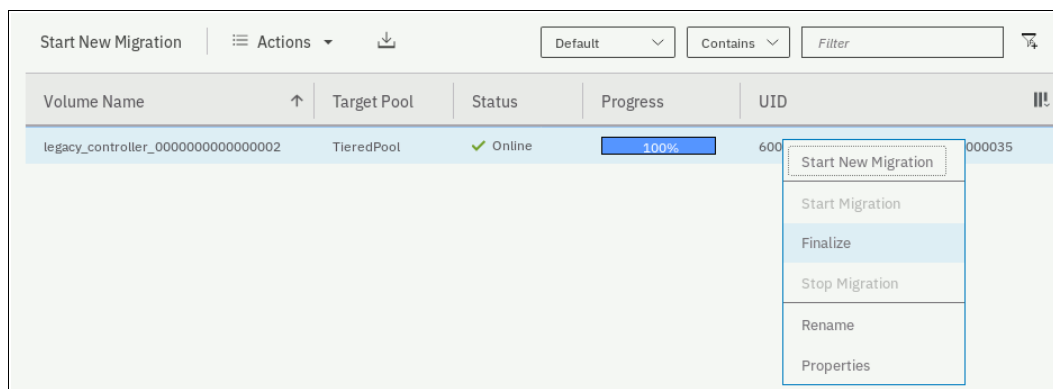

Figure 8-19 Finalizing a migration
- When the migration completes, select all of the migrations that you want to finalize, right-click the selection, and click **Finalize**, as shown in Figure 8-19.